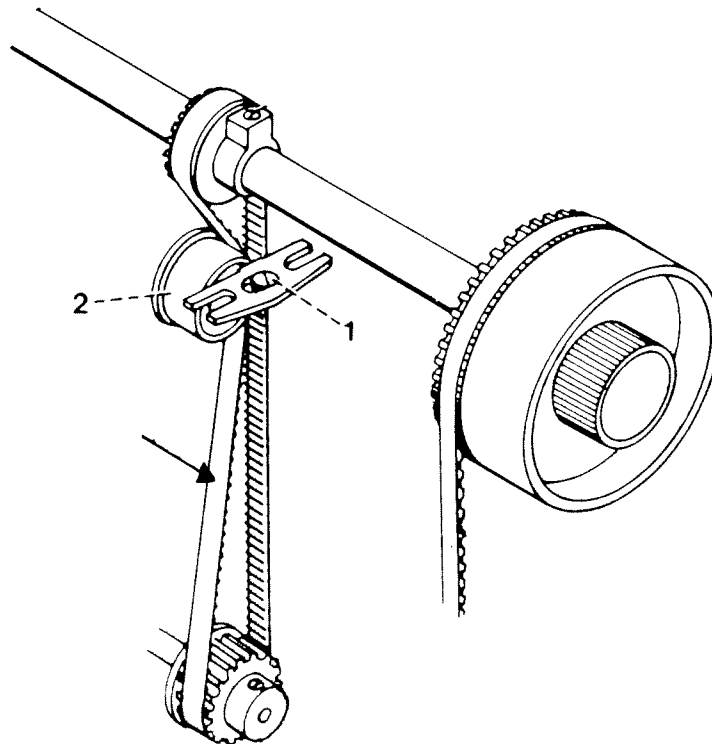

Fig. 1
- Loosen screw 1 (see Fig. 1).
The belt must move 1 to 3 mm inwards (Fig. 1).